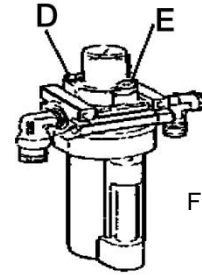

Fig. 17
- Condense water should be emptied daily. (Fig 17)